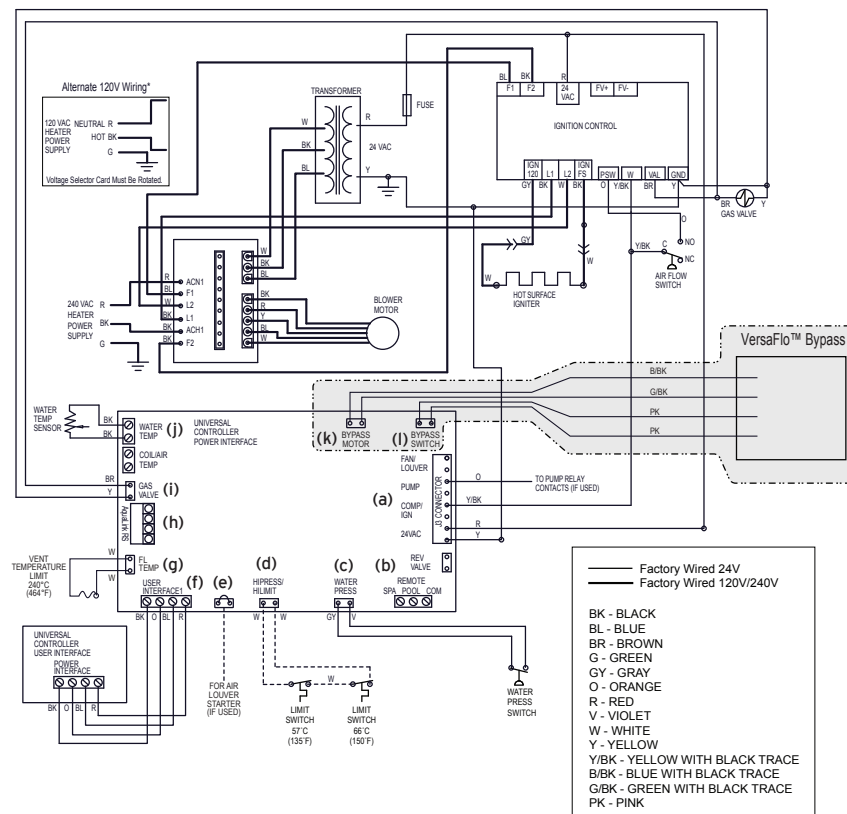

Figure 6. Wiring Diagram
1. Remove factory installed jumper from Bypass Switch (J22). See Figure 6 (I).
2. Connect the 2 pin GR/BK and B/BK at the board position Bypass Motor (J21). See Figure 6 (k).
3. Connect the 2 pink wires to the 2 terminal connector at board position Bypass Switch (J22) polarity does not matter. See Figure 6 (l).